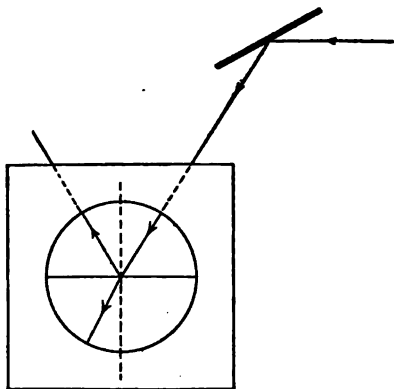

FIG. 367.—Part of the ray is reflected and part passes into the water and is refracted.
**376. Action of Light Undergoing Refraction.**—If a beam of sunlight be admitted to a darkened room and reflected by a mirror so that it strikes the surface of water in a glass jar, a part of the beam may be seen to be reflected while another portion is transmitted through the water (Fig. 367). The reflected beam follows the law of reflection while the transmitted beam is seen to be *refracted*, or to have its course slightly changed in direction upon entering the water. If the mirror is turned so that the angle at which the light strikes the water is changed, the amount